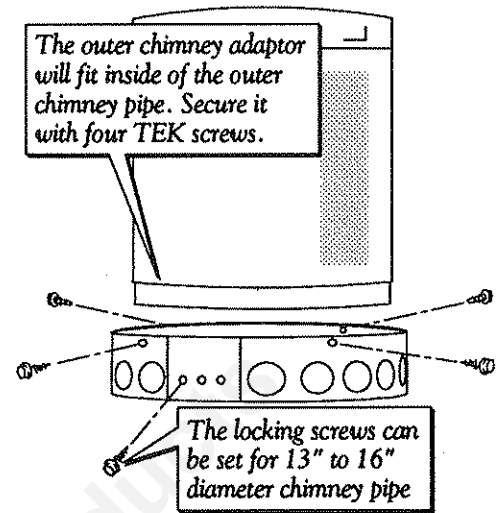

Figure 28. Attach outer adaptor to outer chimney.
Step 7. The outer chimney adaptor adjusts to 13" -16" diameter chimney pipe. Adjust it to the diameter of the chimney section and secure in position with a TEK screw at the appropriate pilot hole. Permanently secure the adaptor to the chimney with four TEK screws. Figure 28.